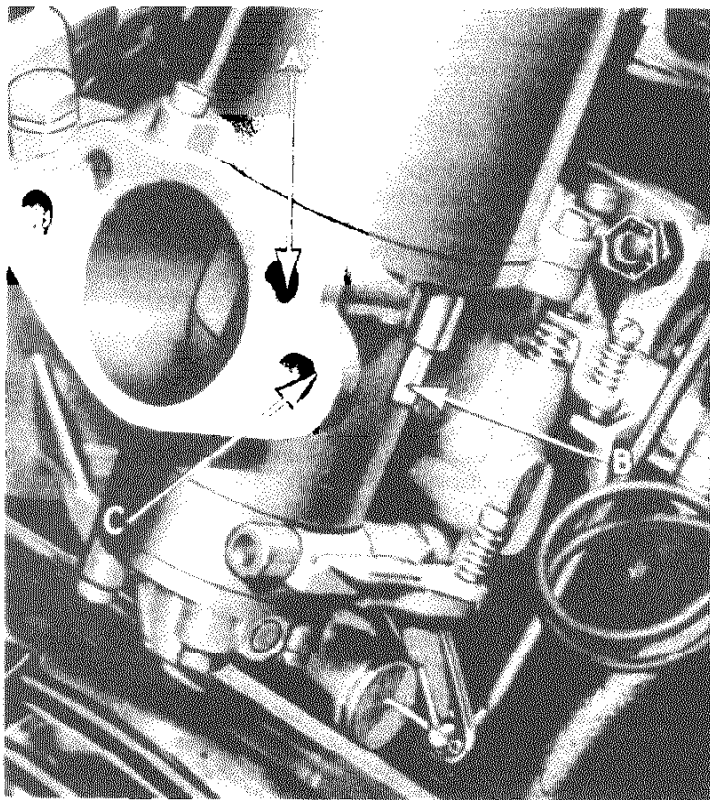

Figure E19
3. SYNCHRONISING Fig. E19
Elevate the piston and needle assembly of one carburettor 0.031" - 0.062" (0.793 - 1.587 m/m) by pressing the piston lift pin "B", Fig. E19. When the engine speed reduces, it indicates that the mixture of that carburettor is too weak but when the engine speed increases, it indicates that the mixture of that carburettor is too rich. Repeat this operation with the second carburettor and determine whether its mixture is too weak or too high.
CHECKING AND CENTRALIZING THE PETROL JET Fig. E19